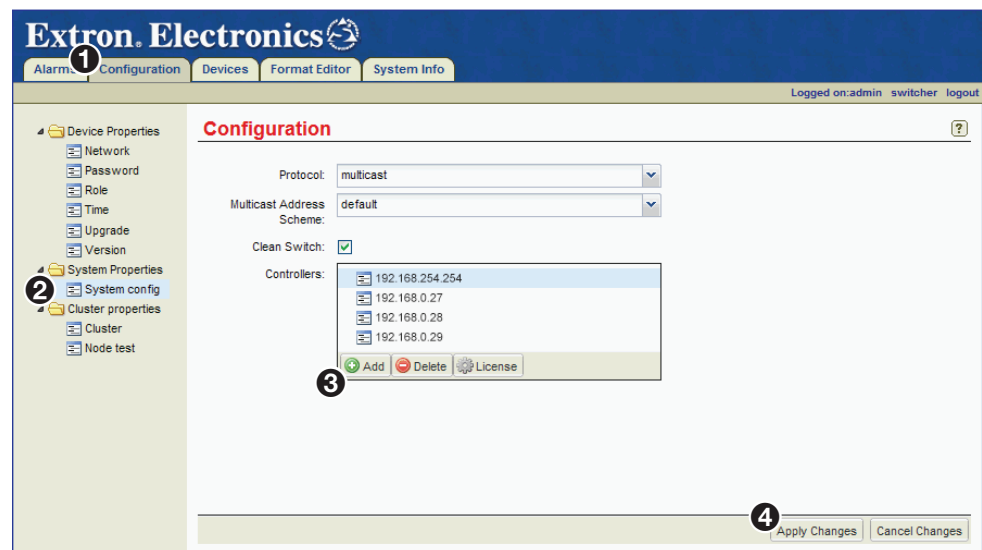

Figure 154. Configuration Page — Adding Controllers to the Controller List
The Configuration page opens (see figure 154, ①).